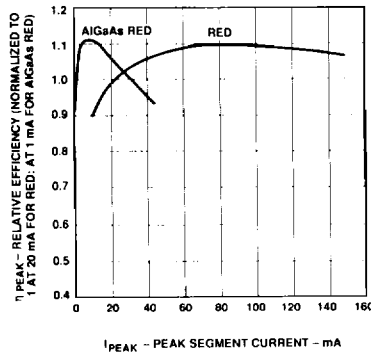

**Figure 2. Maximum Tolerable Peak Current vs. Pulse Duration - AlGaAs Red.**
- See Figure 2 to establish pulsed operating conditions. Maximum pulse width is 1.5 ms.